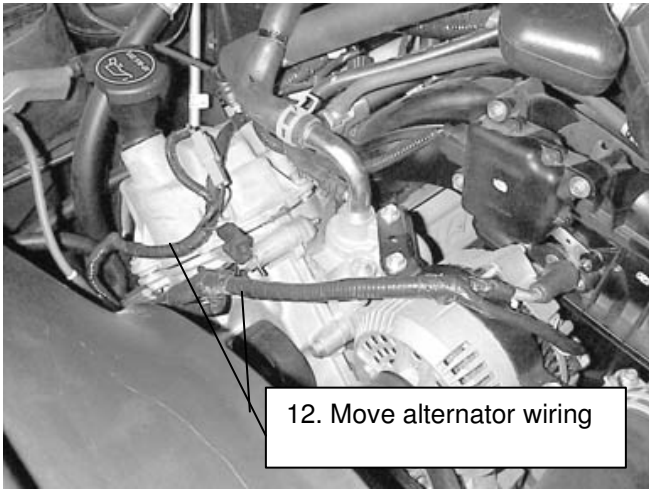
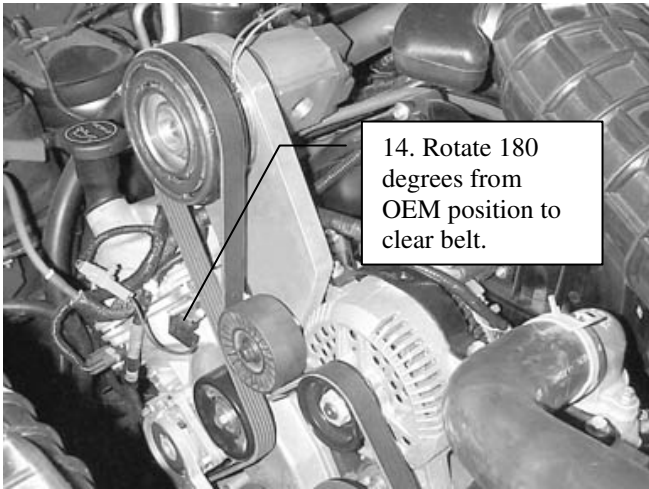

Fig. 3
Fig. 4
11. Insert the idler bushing (2) into the idler pulley (5) and attach the other side to the boss on the front of the pump mount bracket (1) at Location C with the M10 x 30 shoulder bolt (8). Torque to 19-25 ft-lb.
12. See Fig. 3. Disconnect the wiring from the alternator, pull it from the attachment points on the valve cover and push it back on top of the valve cover. Make sure the alternator wiring will not be pinched between the engine and the pump bracket when it is installed.
13. Attach the pump mount bracket (1) to the engine with the OEM stud bolt (6) at Location A and the M8 x 60 bolt at Location B. Torque these bolts to 19-25 ft-lb.
14. Replace the wire (14) on the stud bolt (9) rotating it 180 degrees from the OEM position so it points away from the pump bracket so it is not in the belt line. See Fig. 4. Reconnect wires to the alternator.
15. Reinstall OEM idler (12) using the OEM bolt in its original location. Torque to 19-25 ft-lb.
16. Install the serpentine pump drive belt (15) per diagram.